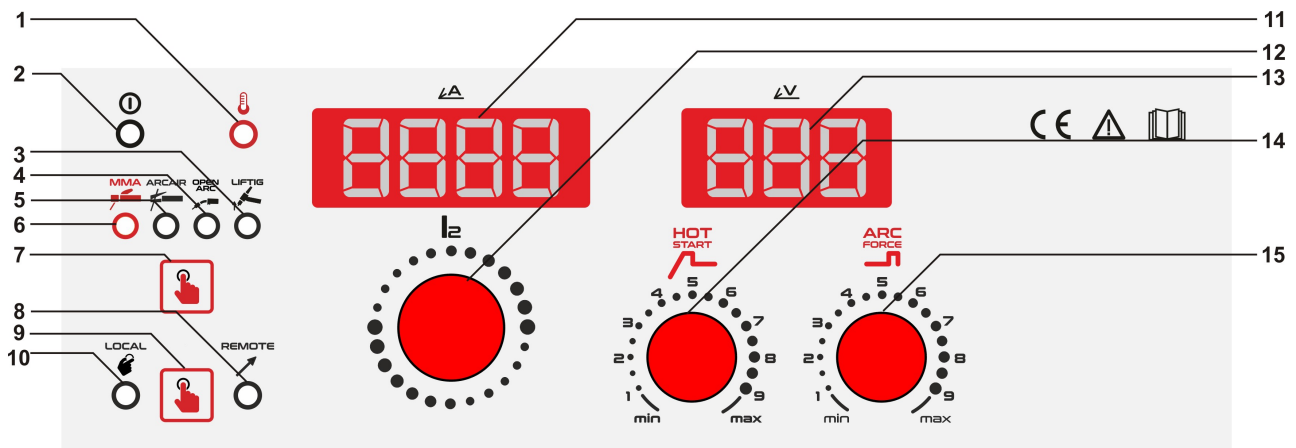

Fig. 2
*1 – Press key button 7 (Fig. 2) until led 6 (Fig. 2) lights on.*
*2 – Select the desired position in Local/Remote selection button 9 (Fig. 2): Adjust current in the current adjustment button or in the remote control or foot pedal to the desired current value.*
*Adjust welding current according to the following table on button 12 (Fig. 2):*
*3 - Adjust Hot Start (initial pick current to facilitate arc ignition) on button 14 (Fig. 2).*
*4 – Adjust ARC FORCE (to avoid electrode sticking during welding) on button 15 (Fig. 2).*